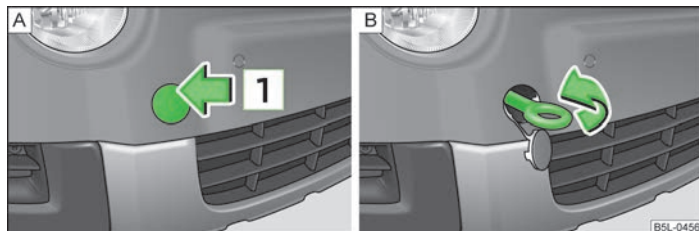

Fig. 163 Front bumper: Removing the cap/installing the towing eye
- Press on the upper half of the cover in direction of arrow **1** » Fig. 163 - **A**.
- Screw in the towing eye by turning to the left up to the stop » Fig. 163 - **B** and tighten as much as possible.